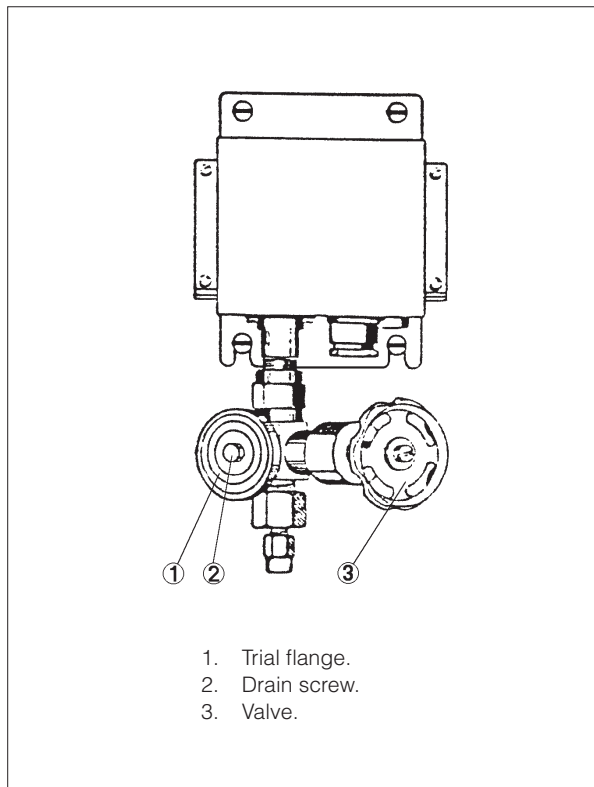

Fig. 2.
3) Shut off system pressure with the valve pos. 3, fig. 2.